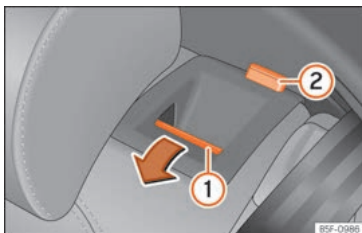

Fig. 163 On the rear seat backrest: release button (1); red mark (2).
- Push the unlock button »» Fig. 163 (1) in the direction of the arrow and at the same time fold down the backrest.
- The rear seat backrest is not engaged when the red marking of the button (2) is visible.
The rear seat backrest is not engaged when the red marking of the button » Fig. 163 ② is visible.